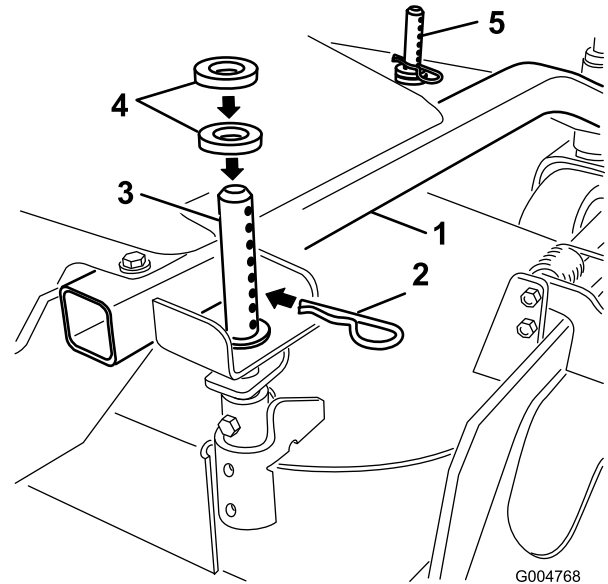

Figure 11
1. Select hole in height-of-cut post and number of spacers corresponding to the height-of-cut desired (Figure 11).
2. Using the lift handle, raise side of deck and remove hairpin cotter (Figure 11).
3. Add or remove spacers if needed and then align holes and insert hairpin cotter (Figure 11).